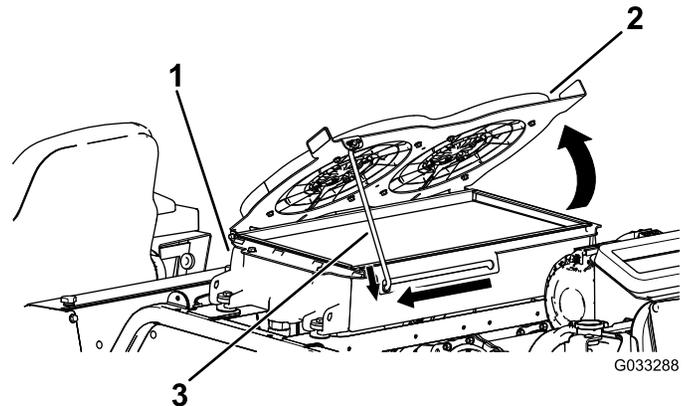

**Figure 120**
4. Pivot the engine-cooling fans forward and lock the prop rod into the notch (Figure 120).